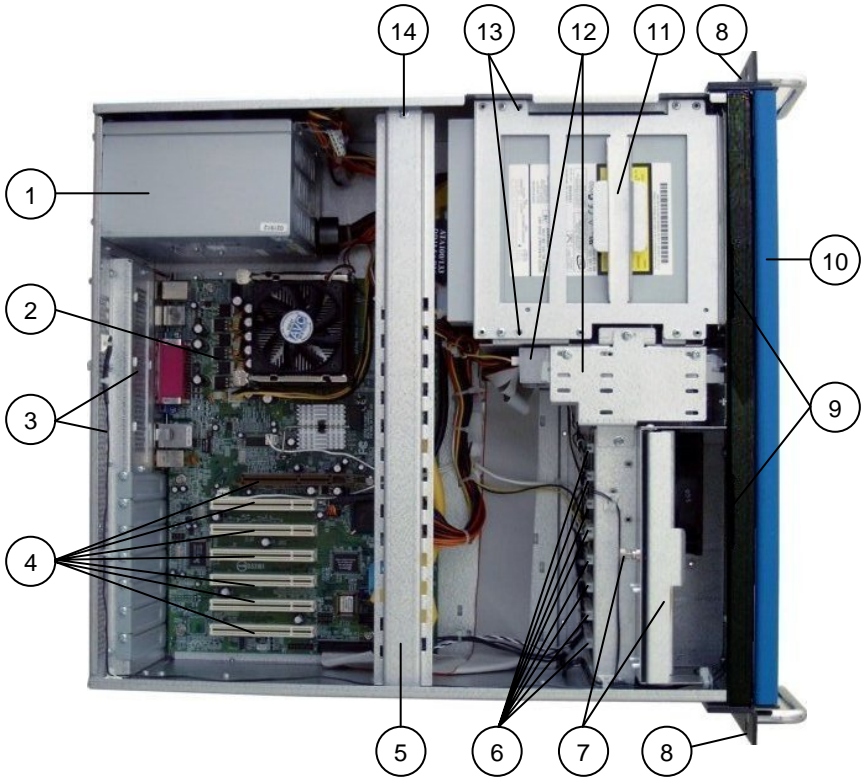

Fig 6: KISS 4U-Platform, opened rackmount version (with motherboard)
Before putting the system into operation for the first time (before mounting / installation into an industrial cabinet), you have to open the unit as described in the "Accessing Internal Components" section in order to remove the drive locking screws (*fig. 6, 6a, 7, 7a pos. 13*).
**Legend for figures: 6 and 6a**
Before putting the system into operation for the first time (before mounting / installation into an industrial cabinet), you have to open the unit as described in the "Accessing Internal Components" section in order to remove the drive locking screws (Fig. 6, 6a, 7, 7a pos. 13).